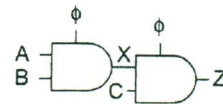

Fig. 19
19. As shown in Fig. 19, the input loading of A is 20 and output loading of Z is 300 units. (5%)